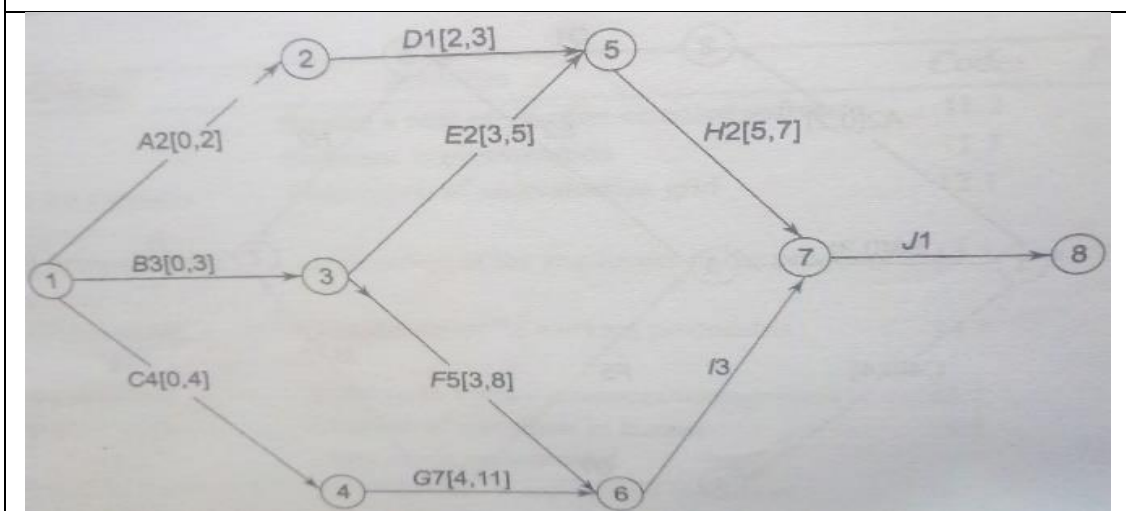

Figure 9
Step 2 : Repeat step 1 for node 2 to 5 and 3 to 5. It is found that for path 2 to 5, the earliest starting is possible with 2nd week and earliest finish is possible at 3rd week. However, for node 3 to 5, the earliest starting time is 3rd week and earliest finish time is 5th week (refer figure 9). Similarly count the same for node 3 to 6 and node 4 to 6 to arrive earliest start and earliest finish time.